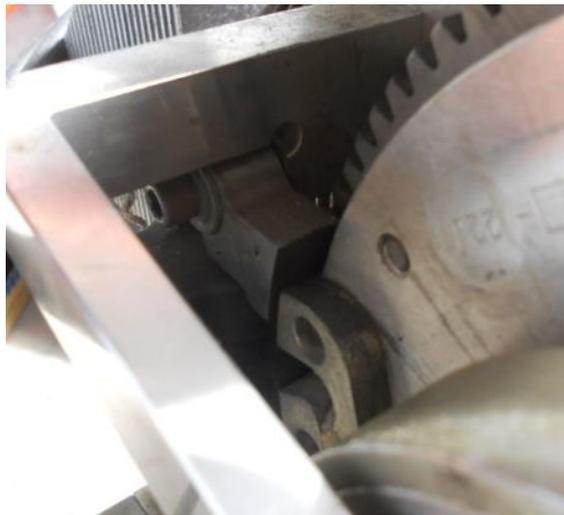

Figure 45 Coil position.
- Remove one spark plug from each cylinder. Turn the engine over several times. Position the crankshaft so that the magnets are almost lined up with the ignition coils, see Figure 45. Then using a spring balance at the tip of the propeller blade, (take care not to damage the propeller blade) pull the prop slowly in the direction of rotation. Take note of the reading on the scale as you do this. You will only get about 150mm of movement before the camshaft causes the prop to move more easily.